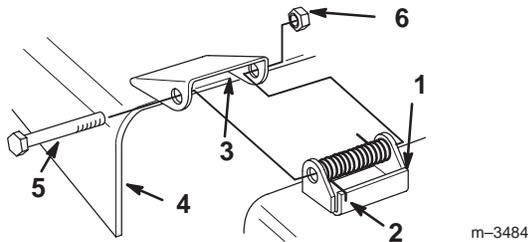

Figure 1
- Place the springs into the brackets on the mower with the hooked ends over the raised back of the bracket (Fig. 1).
- Align the discharge chute with the holes in the brackets and the spring straight ends in the space under the hinge and above the chute (Fig. 1).
- Secure the chute to the bracket with bolts through the discharge chute, springs and brackets. Secure with lock nuts (Fig. 1).